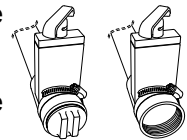

Figure 13.2h
6. Unscrew drain valve cap, Figure 13.2h. Place the cap aside.